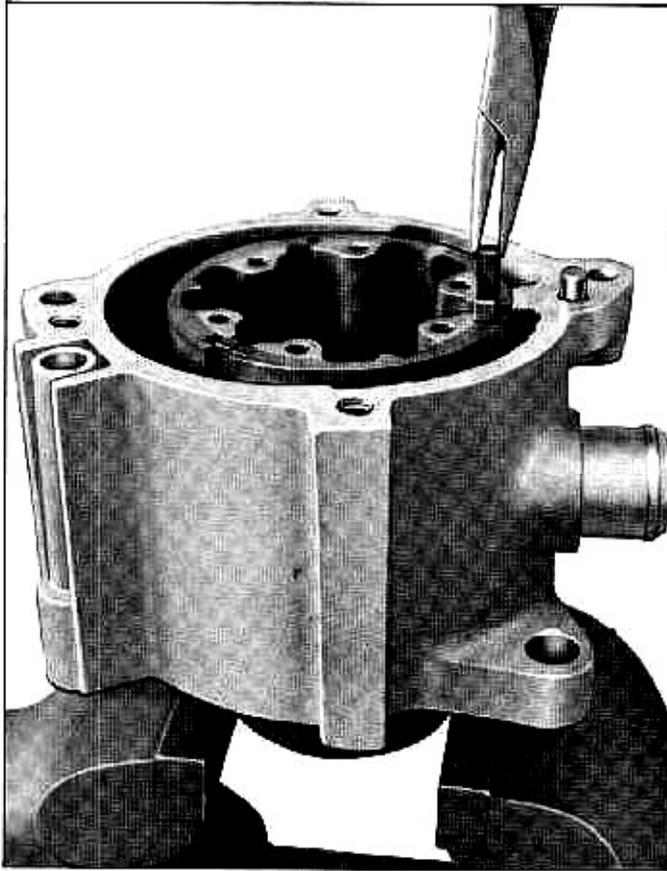

Fig. 13—Removing Vane Shoes
4. Remove the vane shoes with tweezers or needle nose pliers (fig. 13) then remove the shoe springs.